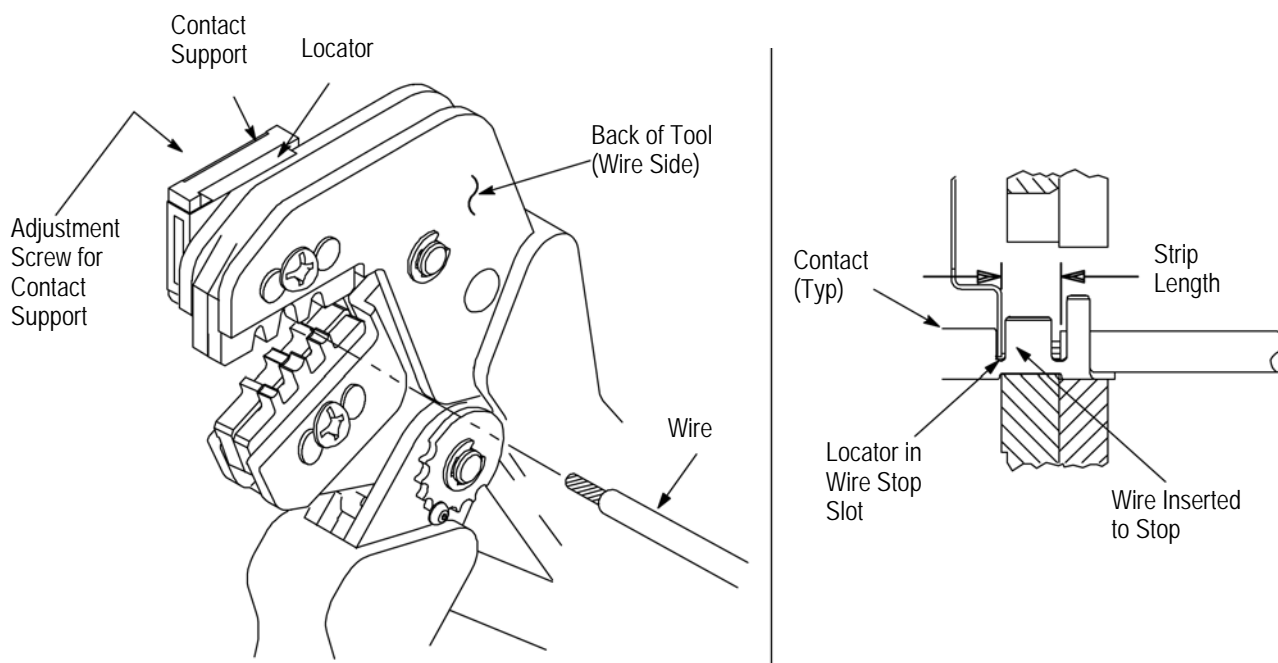

Figure 3
4. CONTACT SUPPORT ADJUSTMENT (Figure 3)
Refer to the table in Figure 1 and select wire of the specified size and insulation diameter. Strip the wire to the length indicated in Figure 1, taking care not to nick or cut wire strands. Select an applicable contact and identify the appropriate crimp section according to the wire size markings on the tool. Refer to Figure 3 and proceed as follows:
3. Position the contact so that the mating end of the contact is on the locator side of the tool, and so that the open "U" of the wire and insulation barrels must face the top of the tool. Place the contact up into the nest so that the movable locator drops into the slot in the contact. Refer to Figure 3. Butt the front end of the wire barrel against the movable locator.
5. Insert stripped wire into contact insulation and wire barrels until it is butted against the wire stop, as shown in Figure 3.
The crimped contact may stick in the crimping area, but the contact can be easily removed by pushing downward on the top of the locator (see Figure 3)